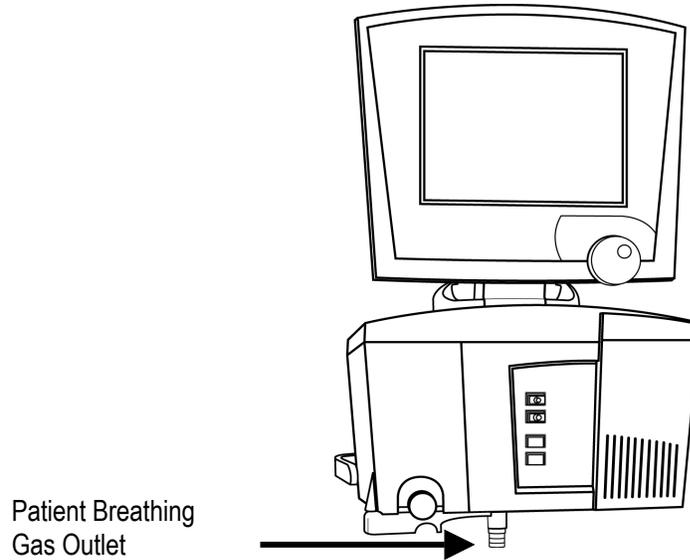

Figure 3.3: Patient breathing gas outlet
9. Using the 3/32" Allen wrench provided install and secure the (4) counter sink screws as shown in Figure 3.3.